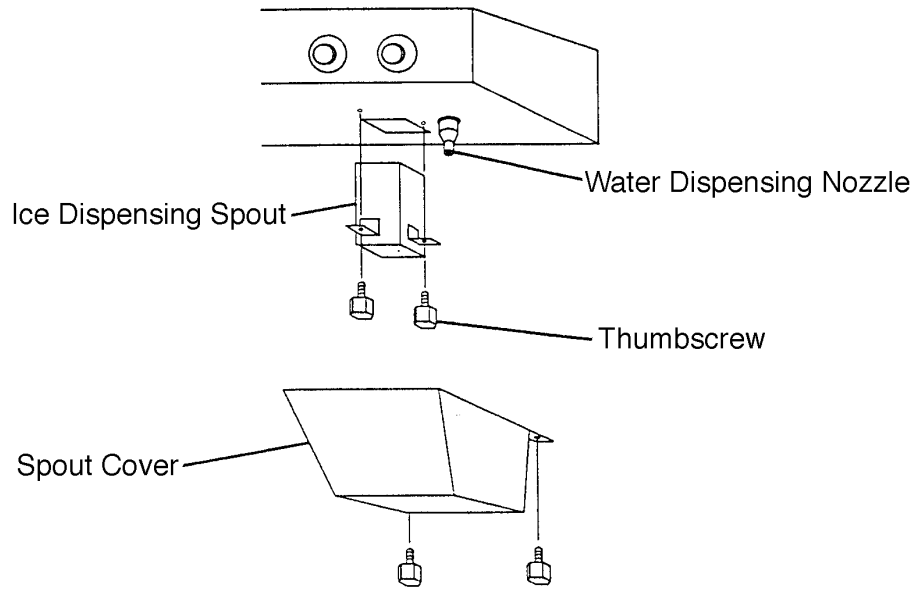

Fig. 16
6. Remove the Spout Cover and, the black Ice Dispensing Spout and the Water Dispensing Nozzle. See Fig. 16.